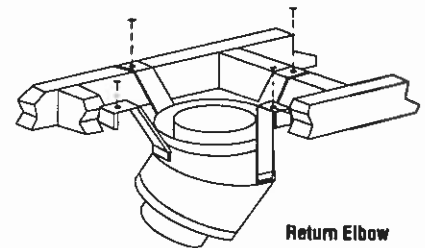

Figure 49
Step 5. Secure support straps to framing members by nailing under tension in shear (Figure 49).